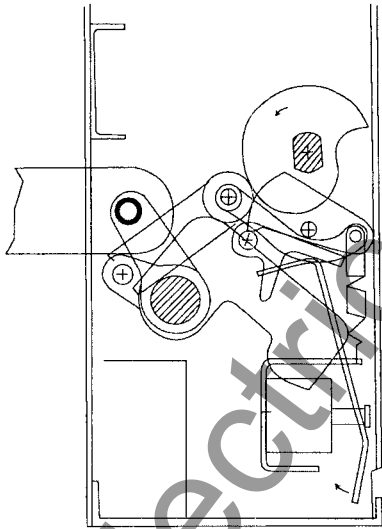

Figure 5-7c Breaker Closed and Closing Spring Not Charged
When the spring release clapper (13 of Figure 5-6) moves into the face of the spring release coil (electrically or manually), the upper portion of the clapper pushes the spring release latch (3 of Figure 5-6) upward. When the spring release latch moves, the cam shaft assembly is free to rotate. The force of the closing cam (8), moving the main link (2), rotating the pole shaft (1) (which charges the opening spring). This moves the three operating rods (9), closes the main contacts and charges the contact loading springs (not shown). The operational state immediately after the main contacts close but before the spring charging motor recharges the closing springs is illustrated in Figure 5-7c. Interference of the trip "D" shaft with the trip latch prevents the linkage from collapsing, and holds the breaker closed.